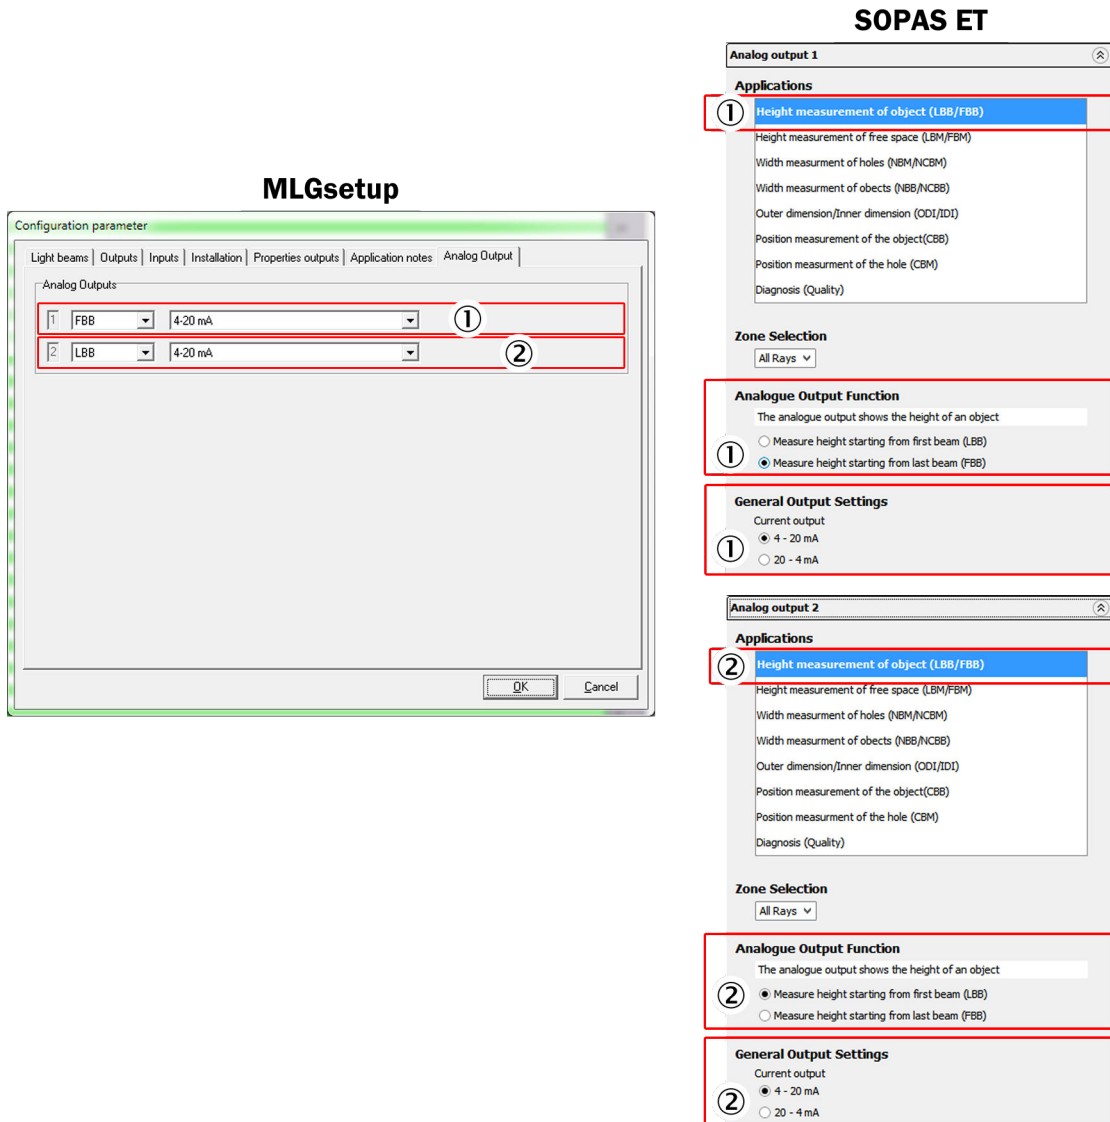

Figure 21: Analog outputs in MLGsetup and SOPAS ET
- “Analog outputs” tab: see figure 21, page 31
- ④ Analog output QA1 (see figure 21, page 31)
- ⑤ Analog output QA2 (see figure 21, page 31)